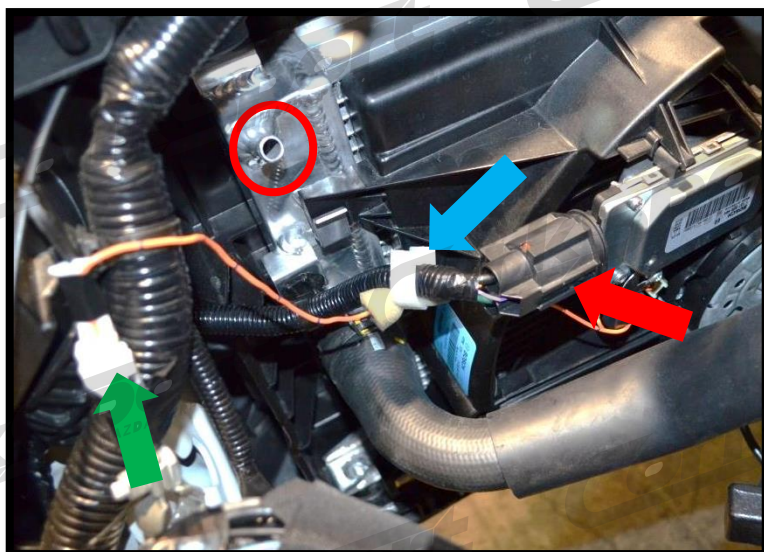

Figure 2i
- j) **Connect the Driver's side lower radiator hose (Figure 2i).** Squeeze the hose clamp together with a pair of pliers and push the hose onto the radiator.
- k) **Connect the radiator bleed line (Figure 2i).**
- l) **Connect the white electrical connector (Figure 2i).**
- m) **Connect the harness plug to the fan control module (Figure 2i).**
- n) **Replace the wiring harness to the white clip located on the drivers side of the fan housing (Figure 2i).**
j) Connect the Driver's side lower radiator hose (Figure 2i). Squeeze the hose clamp together with a pair of pliers and push the hose onto the radiator.
k) Connect the radiator bleed line (shown removed and circled in red in Figure 2i).
l) Connect the white electrical connector (green arrow in Figure 2i).
m) Connect the harness plug to the fan control module (red arrow in Figure 2i).
n) Replace the wiring harness to the white clip (blue arrow) located on the drivers side of the fan housing (Figure 2i).